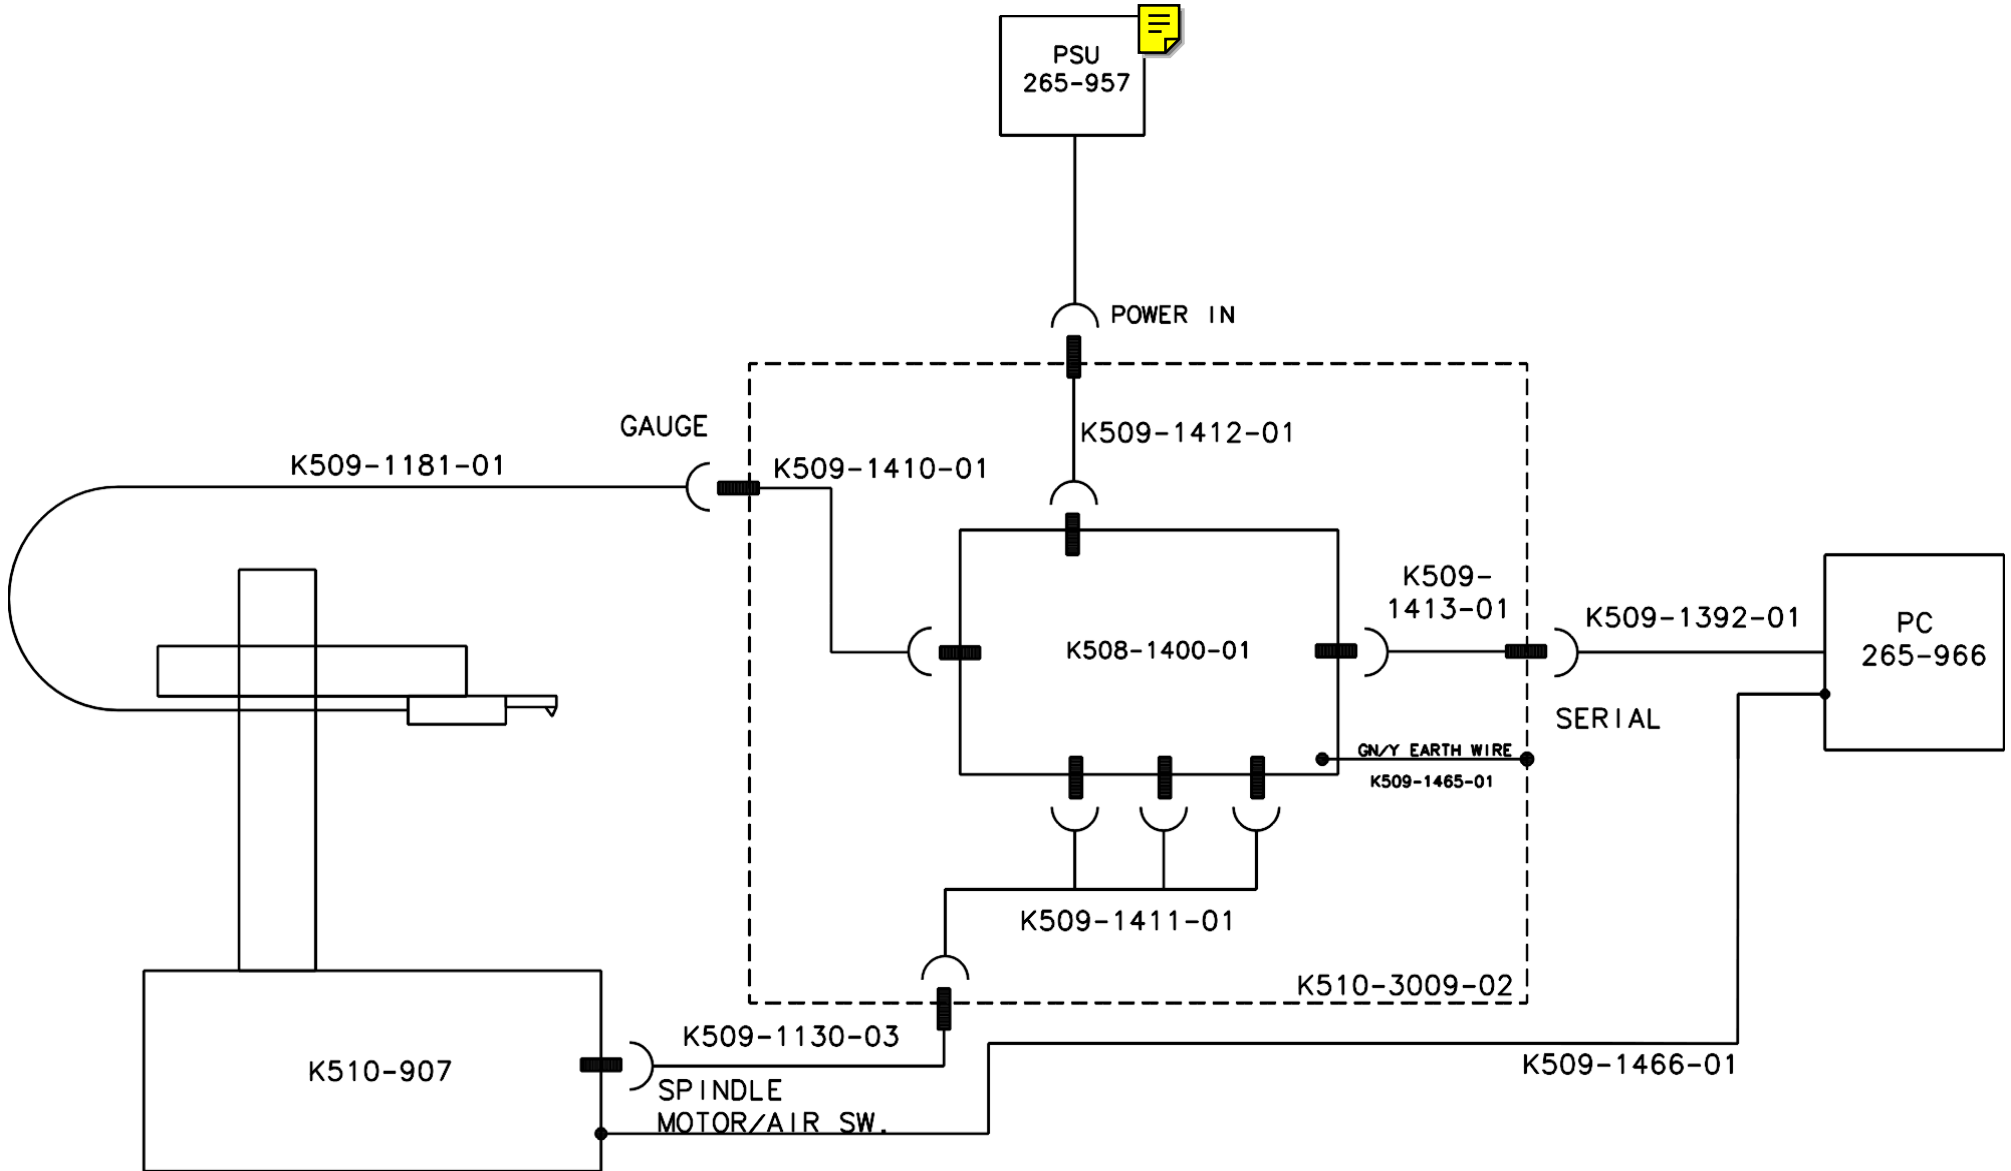

Figure 2.1 Connecting the instrument
1.1.8.1 Connect the instrument as per the connection diagram in Fig 2.1 below.